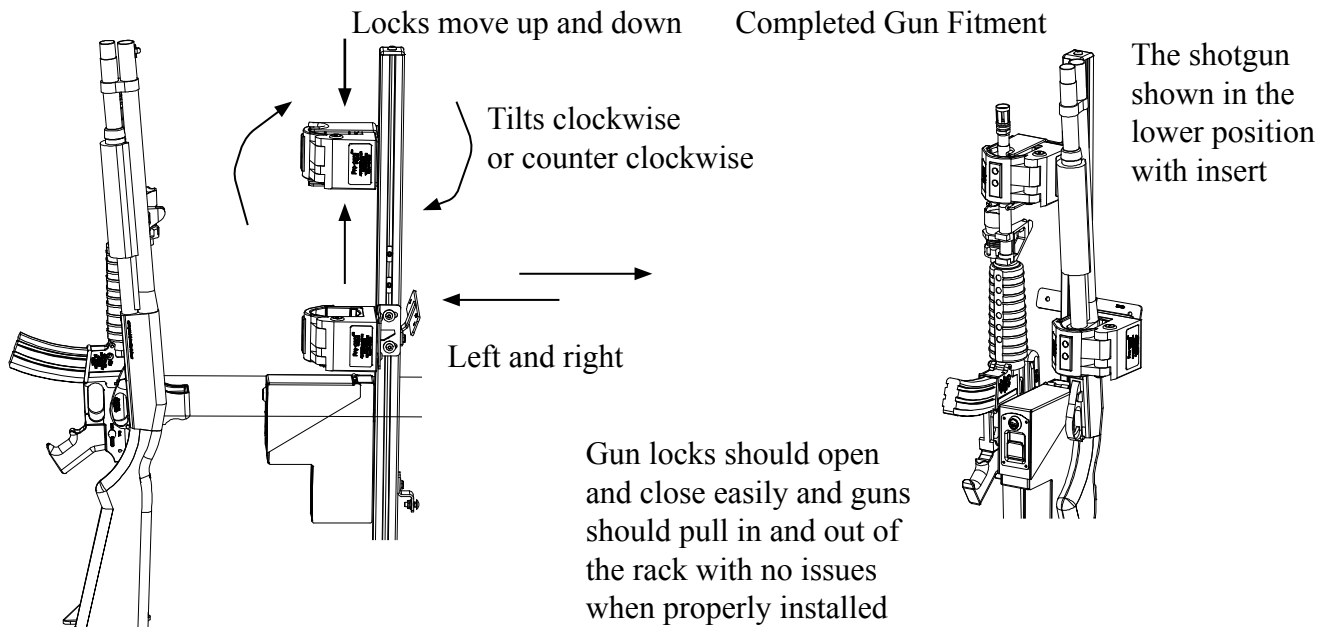

Fig. 3
- B. The brackets mounting the gun lock are designed to be loosened and adjusted in many directions to accommodate most guns. Fit each gun by loosening the bolts on the gun lock bracketry so the mounting bracket moves freely. Place your gun into the lock and in the desired position. Take an allen wrench to tighten locks in place. (See Fig. 3)